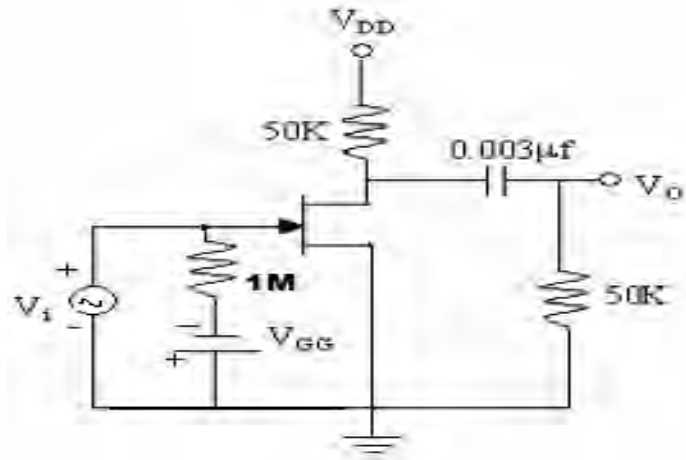

Figure.1
- b) In the common source FET amplifier shown in Figure.1, the transconductance and drain dynamic resistance of the FET are 5mA/V and $1\text{M}\Omega$ respectively. Estimate A_v , R_i & R_o ?